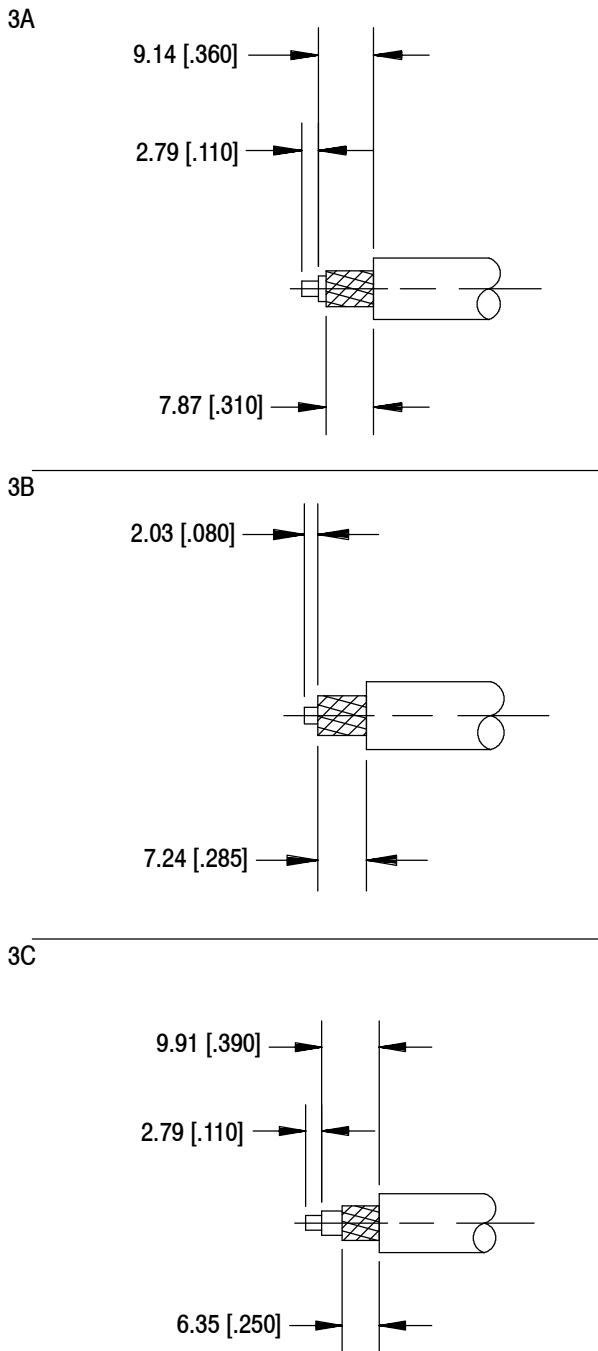

Figure 3
2. Remove the end portion of the cable jacket to expose the cable braid. Refer to Figure 3.
3. Trim the cable braid to the length shown in Figure 3.
- Added new artwork to Figure 3